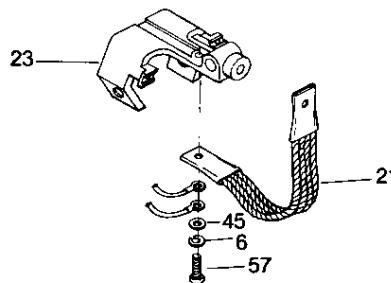

Figure 5
1. With all power removed, disconnect the arc chute wires by removing the hex head cap screw (57), washer (45), lockwasher (6), arc chute wires and shunt (21).
3. Remove the arc chute by removing hex head nut (20), lockwasher (6), hex head cap screw (17) and the arc chute.
6. Reconnect arc chute wires and shunt (Fig. 5) using the washer, lockwasher and hex head cap screw.
1. With all power removed, disconnect the bottom end of the shunt (21) by removing hex head cap screw, lockwasher, washer, arc chute wires and the shunt.
2. Disconnect the top end of the shunt (21) by removing hex head nut, lockwasher, washer and the shunt.
3. Check that auxiliary arm pin (27) is centered and set screw (18) is tight.
5. Connect the bottom end of the shunt by replacing the shunt, arc chute wires, washer, lockwasher and hex head cap screw (Fig. 5).